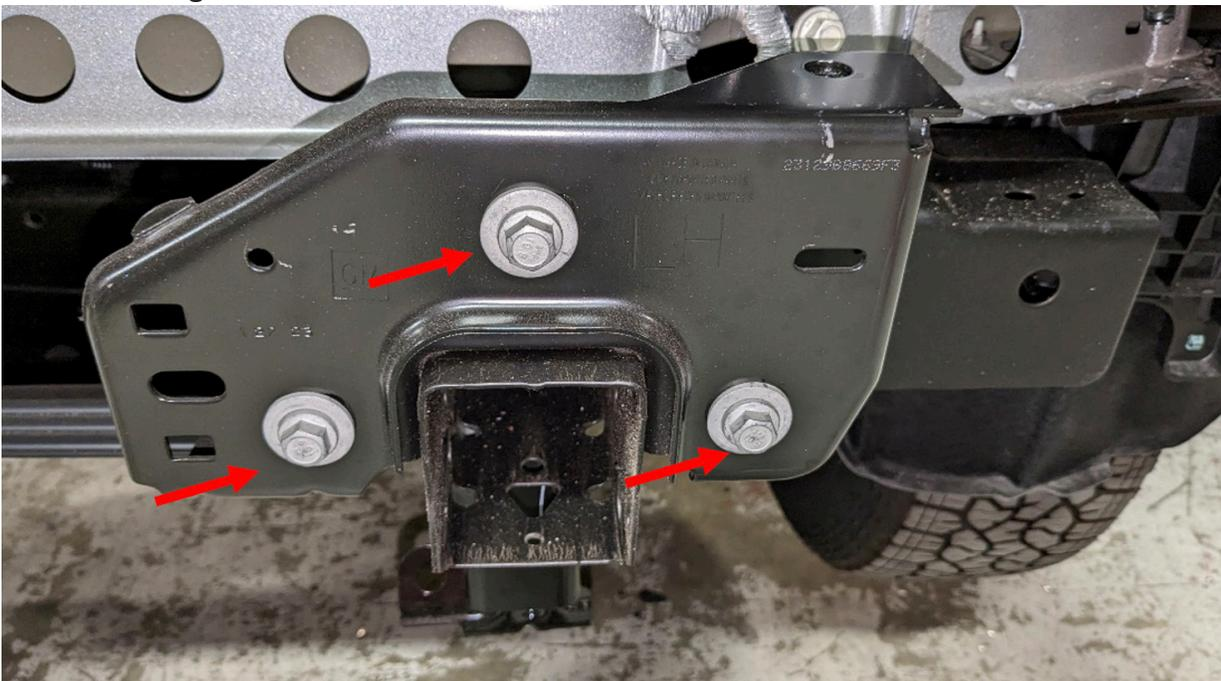

Figure 18
19. Remove three (3) 15mm bolts per side from OEM bumper intermediate brackets to remove brackets from frame. Figure 18.